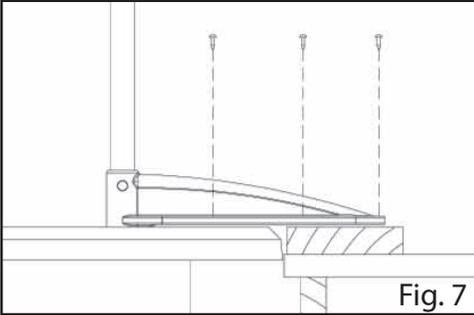

Fig. 7
8. If the deck is lower than the pool, the braces should be shimmed\* to attain the same level as the pool (Fig. 7). Ensure the shim is properly secured to the deck.